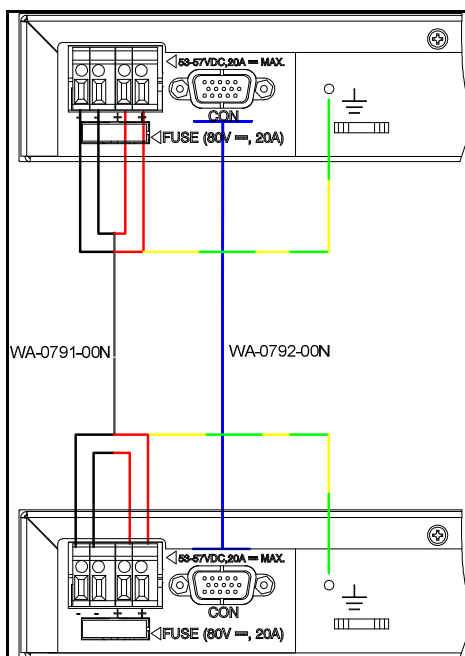

Figure 8-2: PD-90xxG Rear Panel connections
3. Connect the DC cable – two red wires (+) , two black (-) wires and one yellow/green wire as shown in Figure 8-2.